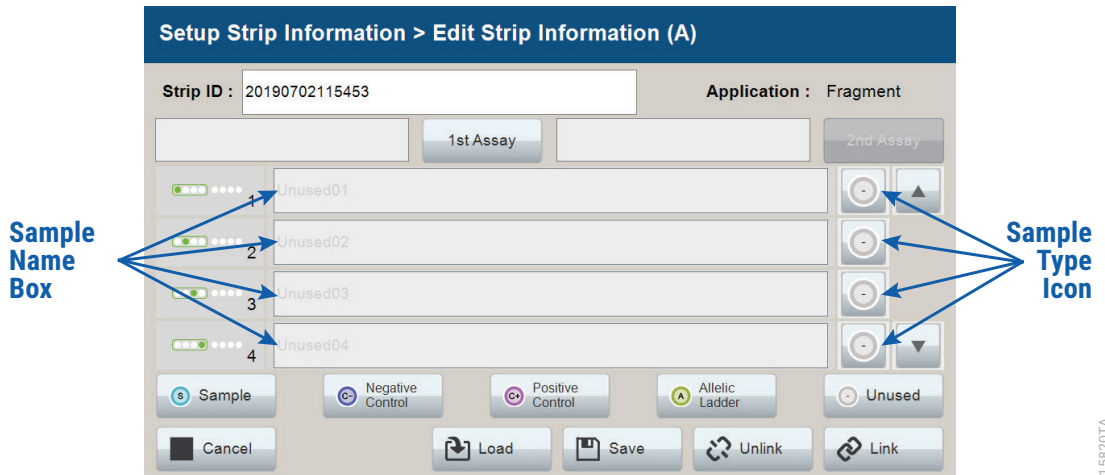

Figure 13. 'Edit Strip Information' screen.
2. Select a lane icon (A, B, C, or D) to enter information for that 8-well strip tube. This opens the 'Edit Strip Information' screen for that lane (Figure 13). This screen displays fields for defining the Strip ID, run assay, sample name and sample type for that lane. Each well in the strip is represented along the left side of the screen. The first injection set of the strip (Wells 1–4) is displayed on the screen. You can use the arrows on the right side of the screen to scroll to the second injection set (Wells 5–8).